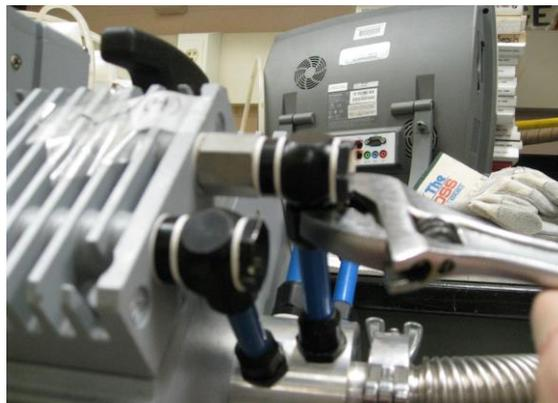

Figure 1: Loosening thread adapter.
- (a.) Loosen the thread adapters that connect the blue hoses to the swivel connectors (see Figure 1).